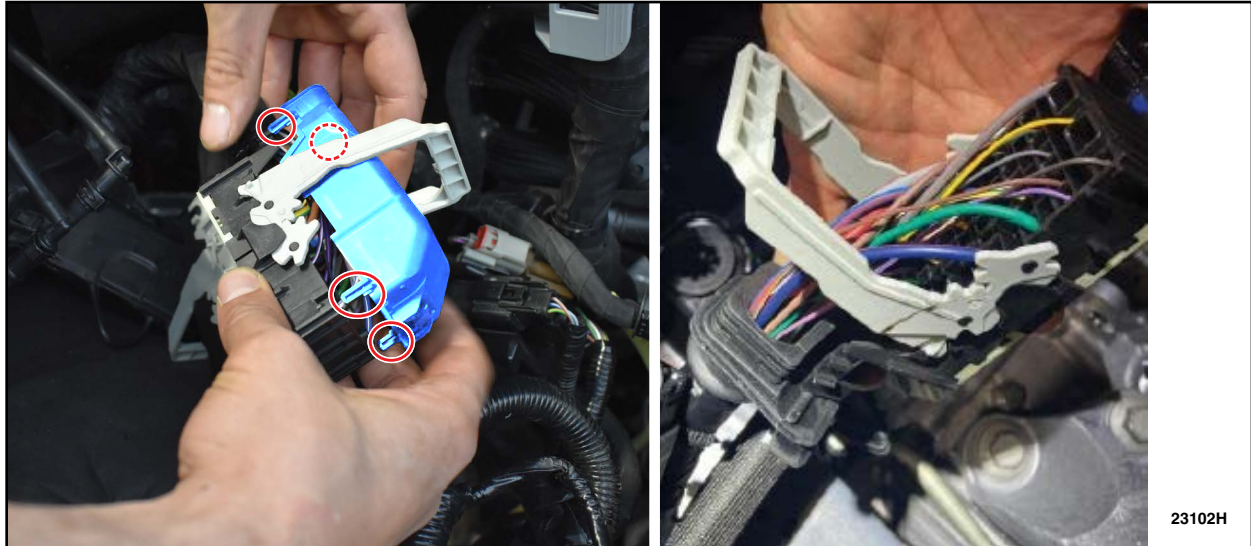

FIGURE 7
9. Remove the back shell from C1035A connector. There are a total of 4 tabs that will need to be released. See Figure 7.